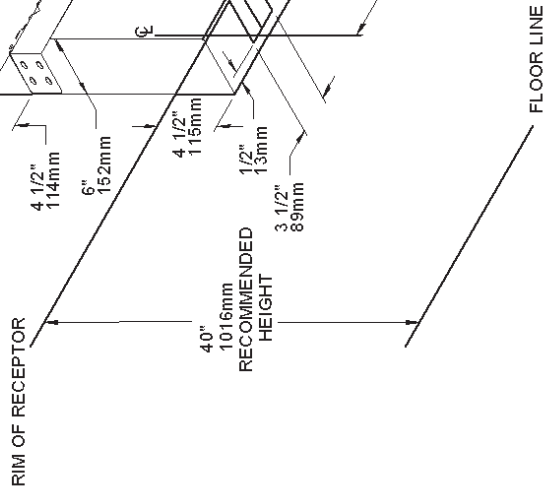

FIG. 3
1. Prepare the wall cutout opening(s). Refer to Wall Cutout Detail (See Fig 3).
2. Prepare waste connection and water supply hookup connection. Refer to roughin drawing for location details (See Fig. 3).
3. Install the fountain hanger bracket in the wall cutout. Refer to roughin drawing for details (See Fig 3). Remove bottom cover plate from the fountain. Save the cover plate and screws for reinstallation.